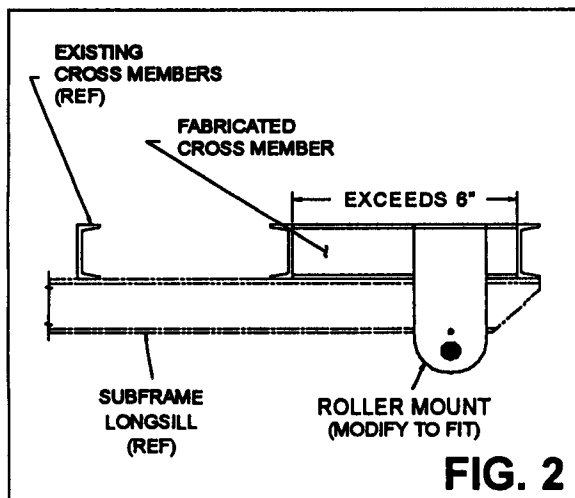

FIG. 2
3. Some modification to the roller mount bracket may be required for the roller mount to fit properly. If the existing container cross members are wider than 6", a fabricated support member of 1/2" plate or thicker will need to be added (See Fig. 2).